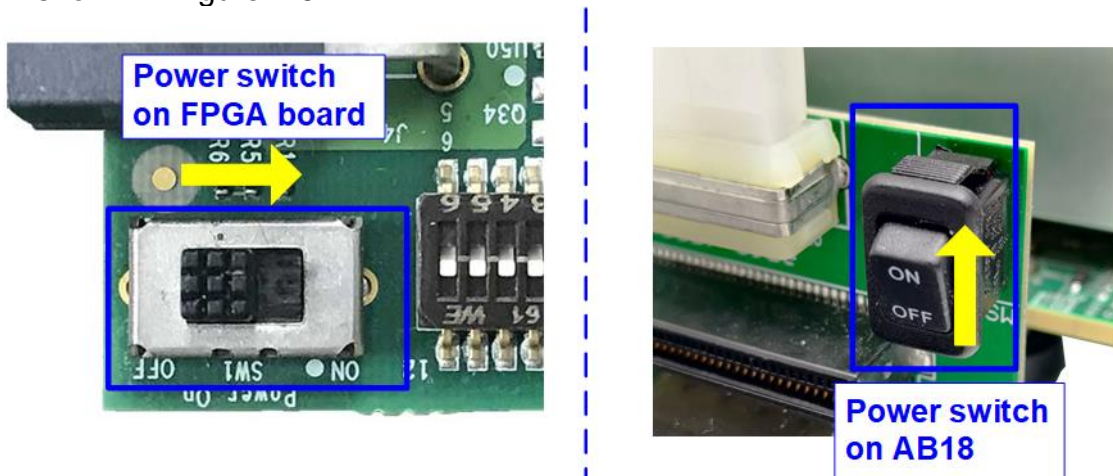

Figure 2-5 Turn on power switch on FPGA and AB18 board
- f) Power on FPGA development board, ATX supply for AB18 board, and AB18 board, as shown in Figure 2-5.